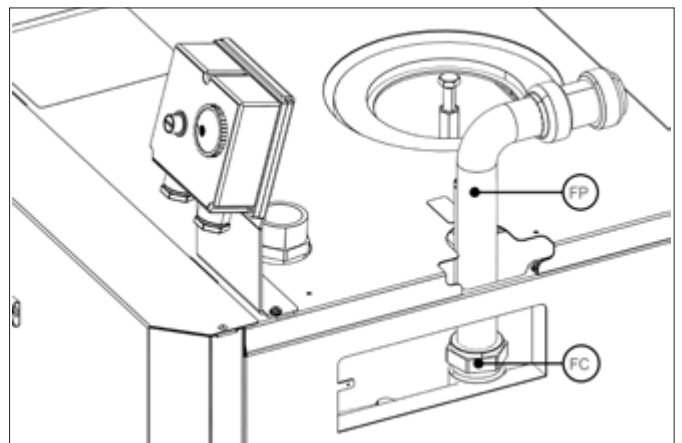

Figure 5-3: 36/46 model - flow pipe fitted (cover plate removed)
3. With the open end of the flow pipe pointing in the required direction (see below), fully tighten the compression nut. Refer to Figure 5-3.